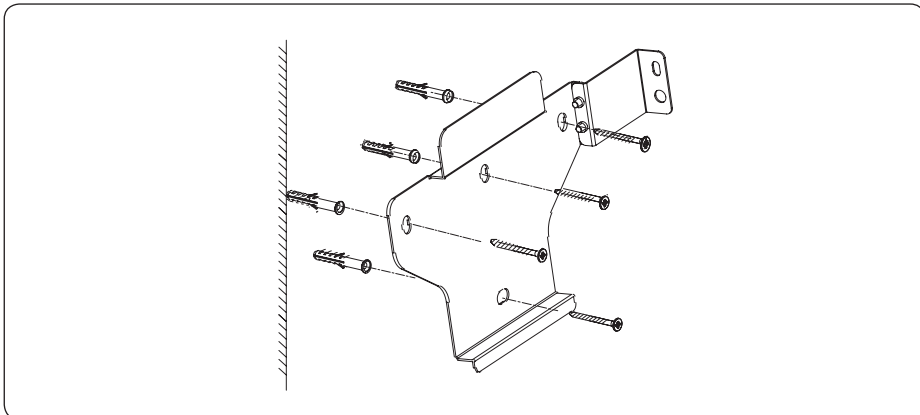

Figure 4-7 Fixing the wall bracket
4) Insert the expansion tubes into the holes and tighten them, then fix the bracket onto the wall with expansion screws by using a cross screwdriver, as shown in Figure 4-7: